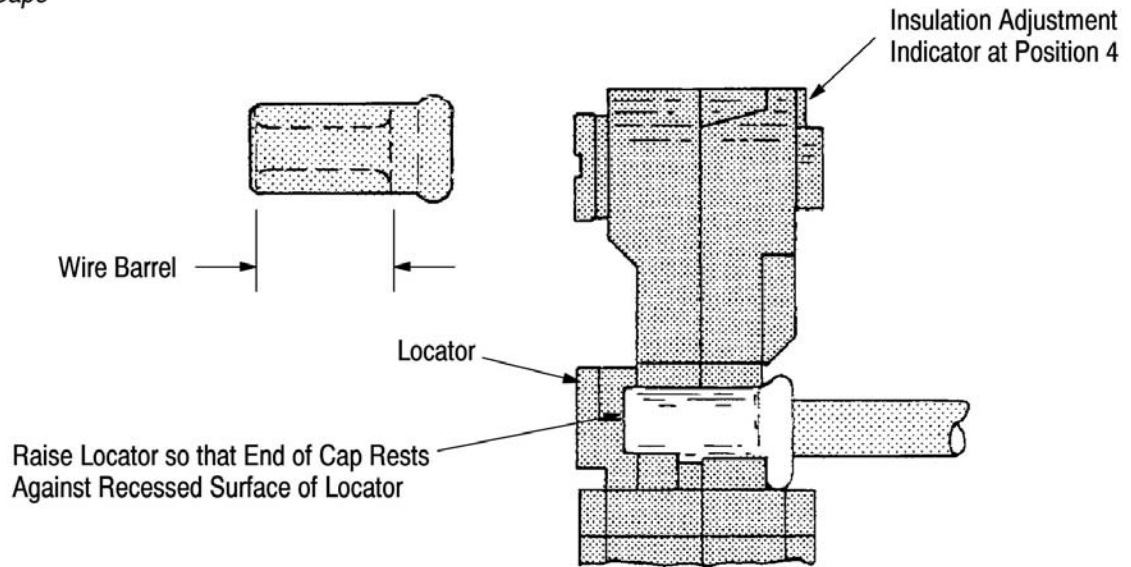

Figure 6
4. Raise locator so that end of cap rests against the recessed surface of locator as shown in Figure 6.